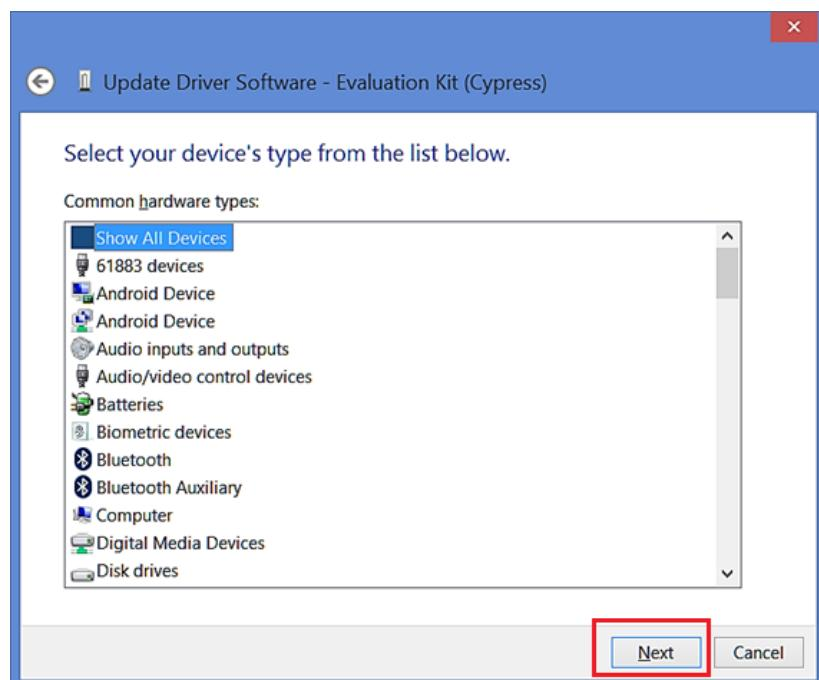

Figure 17: Update Driver Software - 3
6. Choose “Next” (the selection in the list does not matter) (Figure 17):